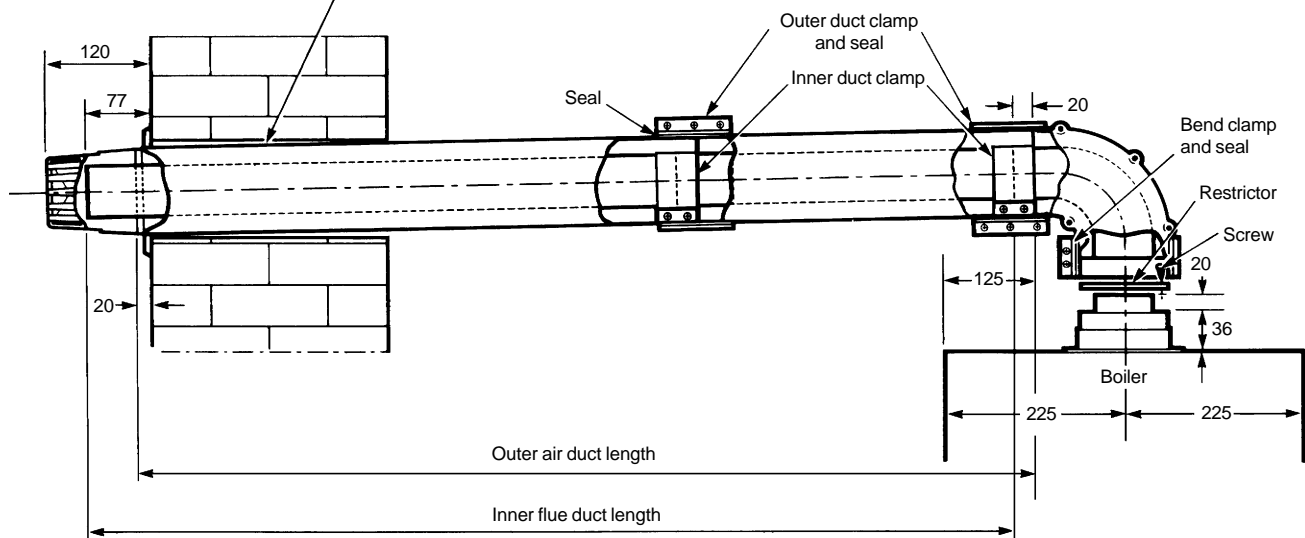

Fig. 13 - Side flue
2. If the flue is more than 1 m, the restrictor must be removed from the flue adaptor (see Fig. 13), by removing the screw and lifting out the restrictor.